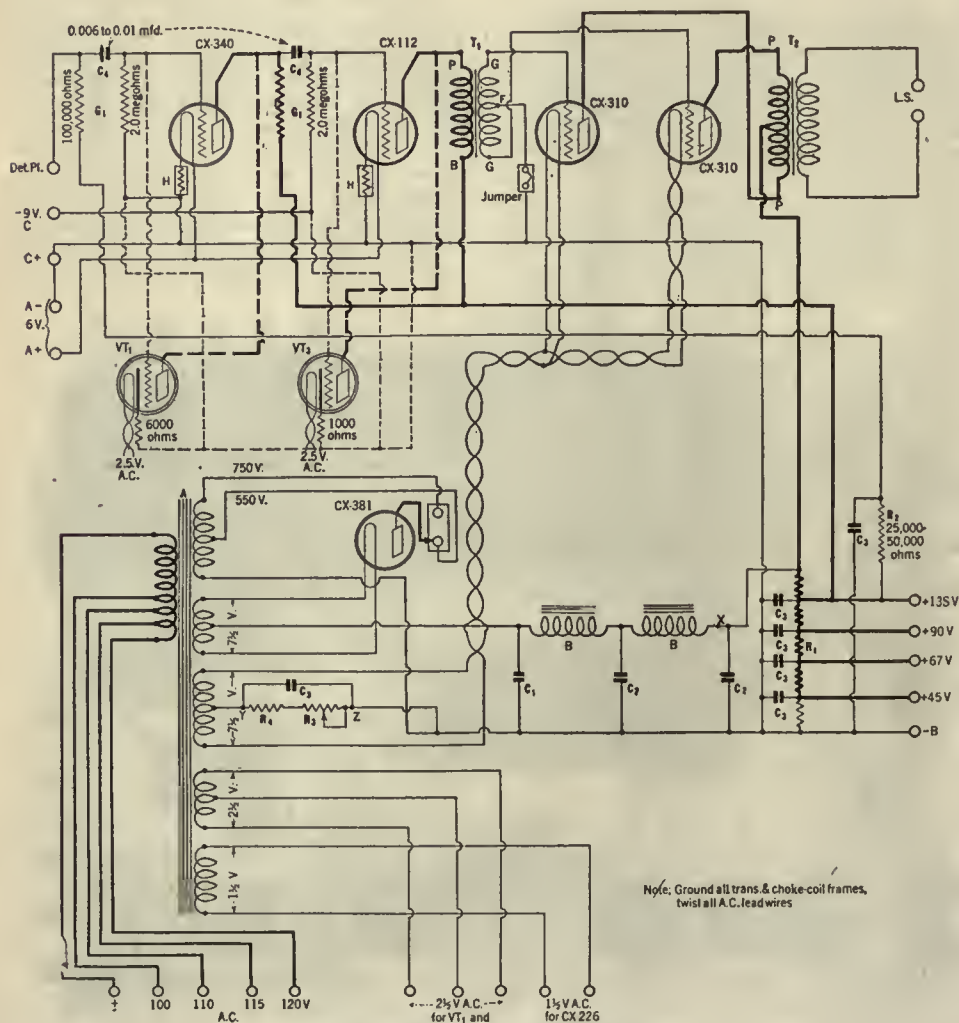

FIG. 2. THE CIRCUIT DIAGRAM
- NOTE: A 6000-ohm and a 1000-ohm C-bias resistor are also needed, as shown in Fig. 2, if a.c. tubes are used in the a.f. amplifier